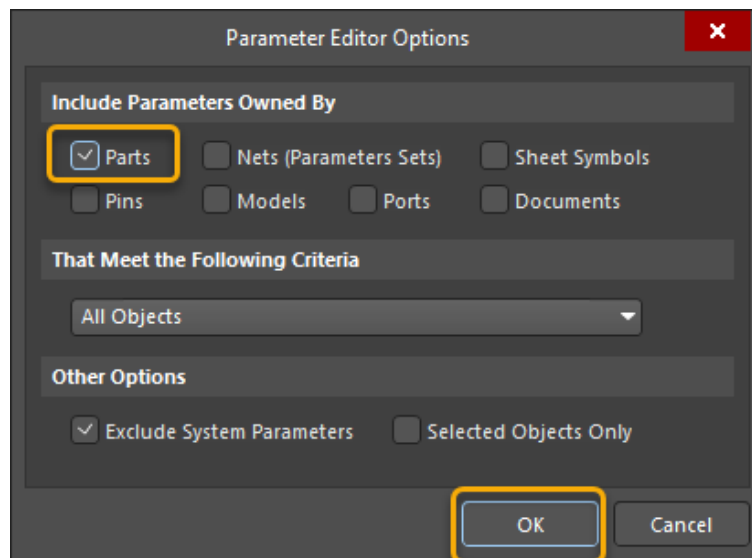

Figure 13. *Parameter Editor Options*
47. In the *Parameter Editor Options* dialog, disable all options in the *Include Parameters Owned By* section, except for **Parts**, and then select **OK**. See Figure 13.